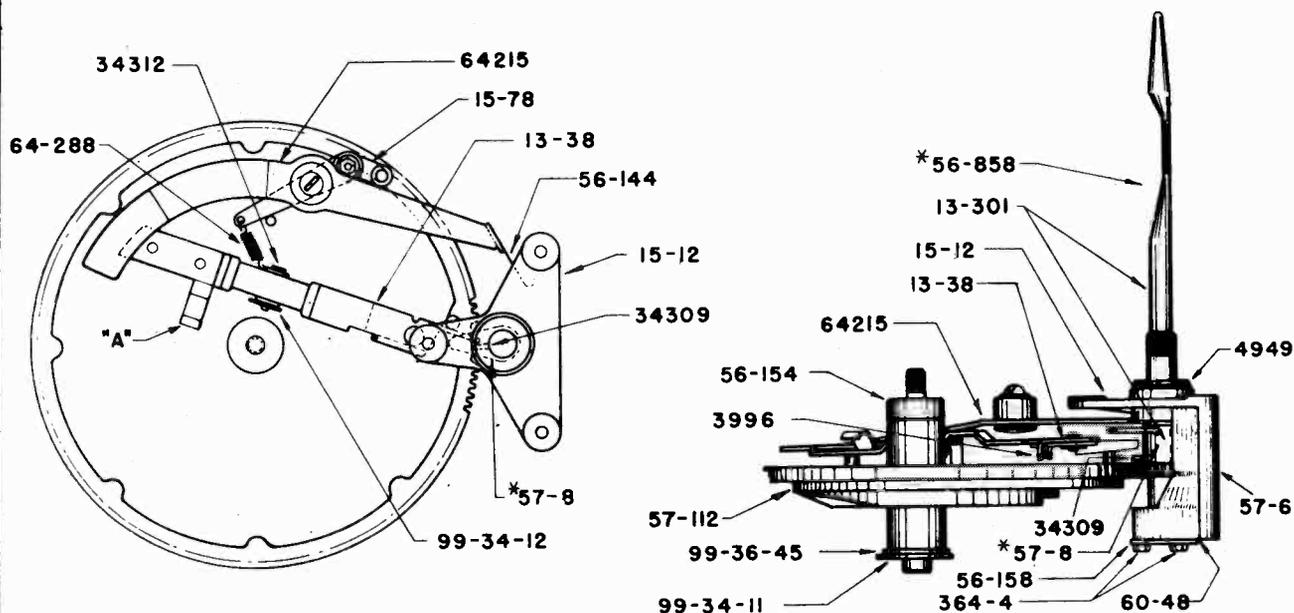

FIGURE 2
- 46293 Trip Finger Stop, Fig. 2